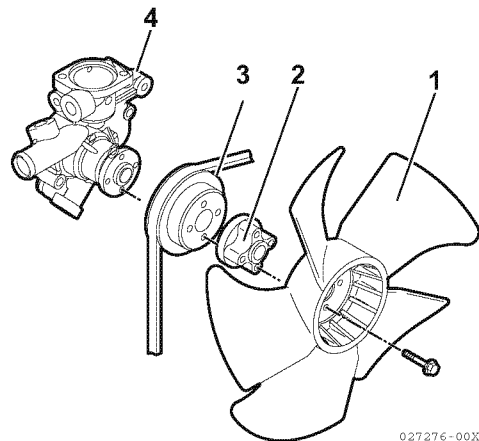

Figure 8-10
7. Install the engine coolant pump V-pulley (**Figure 8-10, (3)**), spacer (**Figure 8-10, (2)**), engine coolant fan (**Figure 8-10, (1)**) and engine coolant fan guard (if equipped).